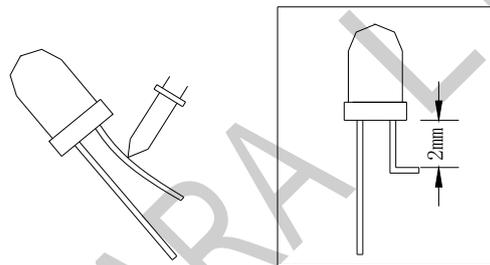

Fig. 7
1) The lead should be bent at least 2mm away from the package. Bending should be performed with base fixed to a jig to pliers (Fig.7)